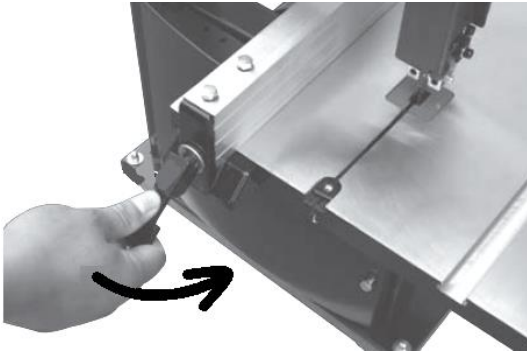

Fig 9
- Lower the fence clamp in order to lock the fence in position on the table (Fig. 9).